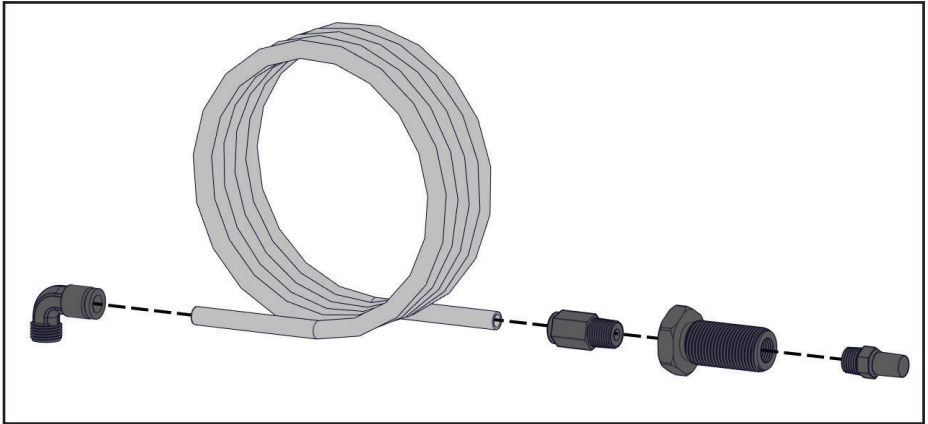

Figure 36 — Tubing Installation Remote Blowdown Muffler assembly
- Install the tube into the push-to-connect bulkhead fitting (Figure 36)